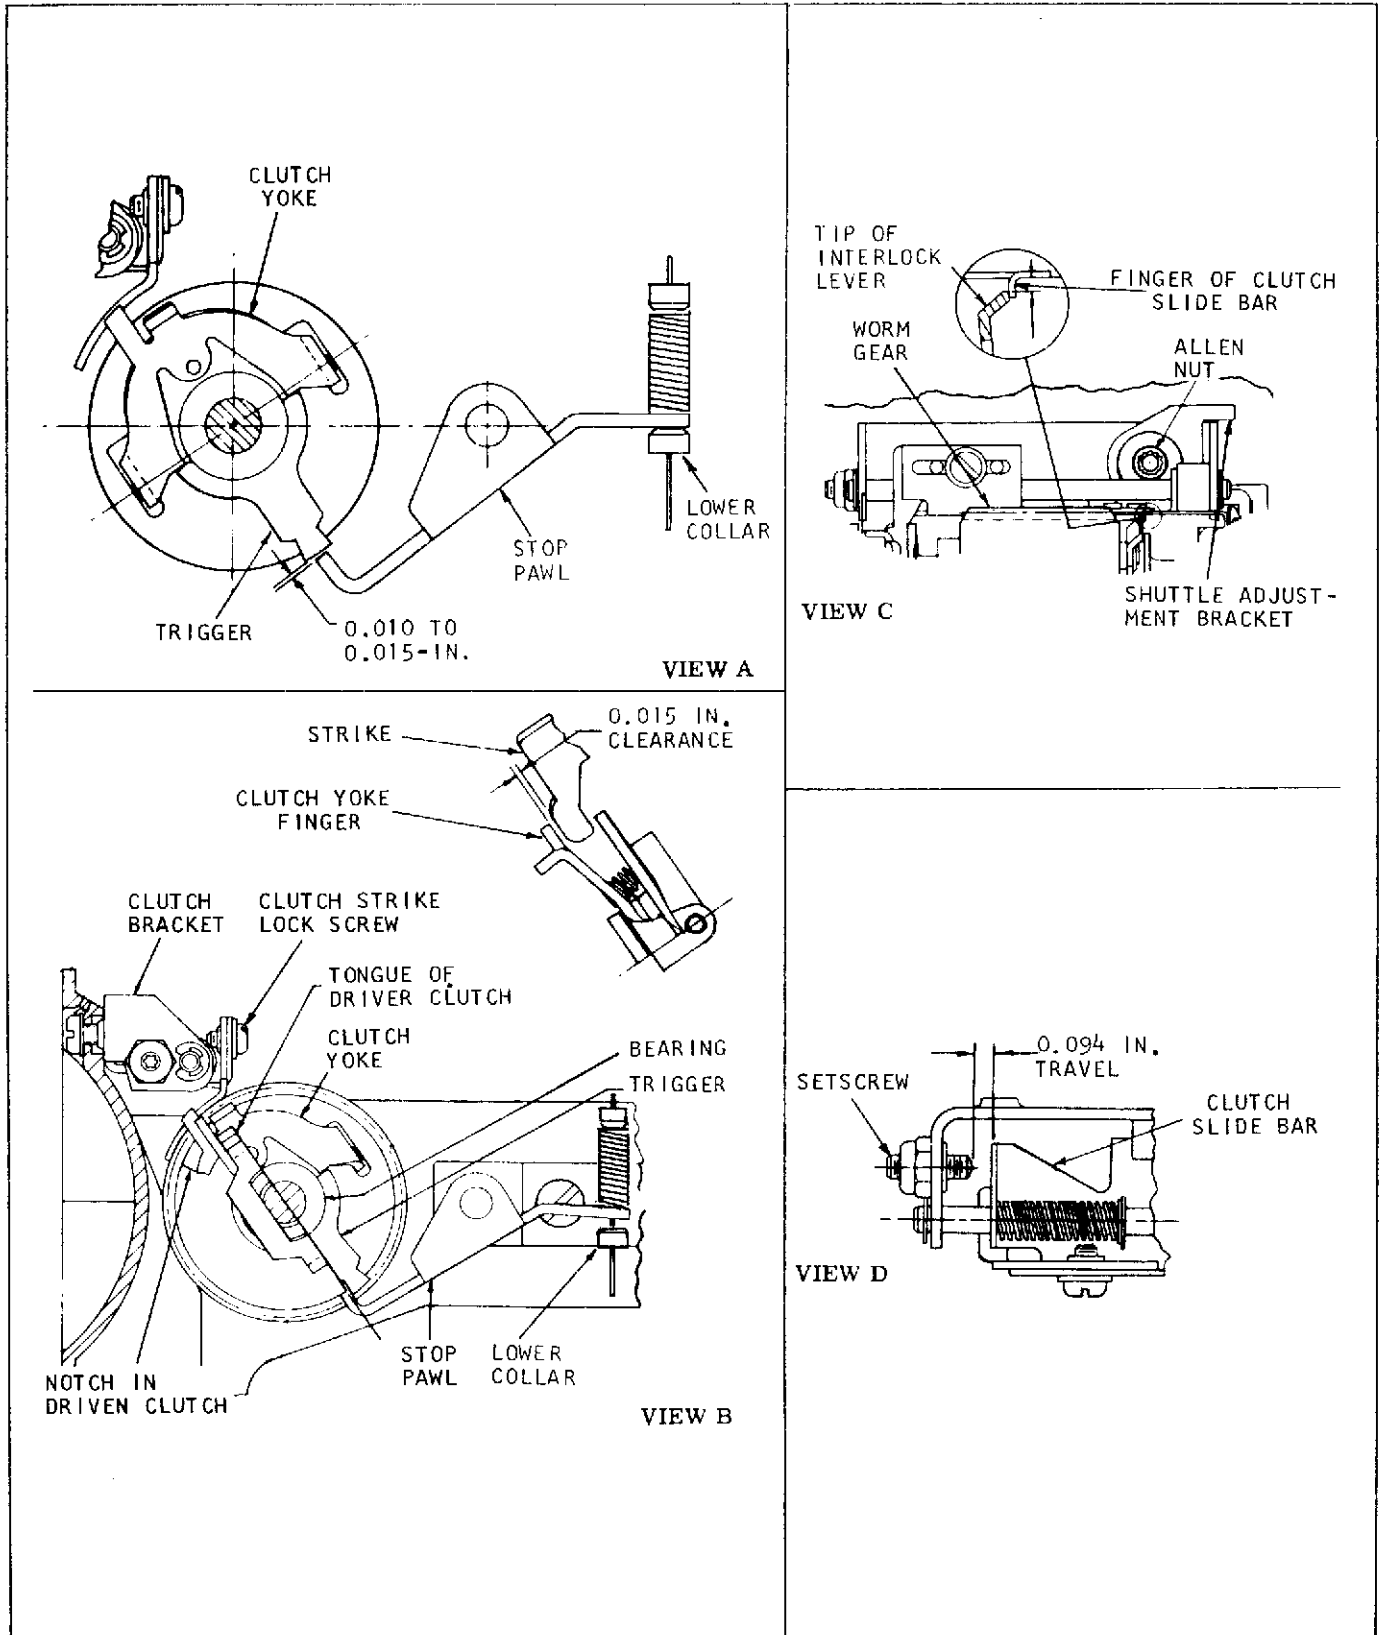

Figure A-1. Still-Run Clutch Adjustments — Design 1541 Only
- (1) The upper end of the still-run rod (4) extends through a hole in the lip of the stop pawl, with one collar (2) below the pawl and the spring (3) and second collar above (see View A of Figure A-1, this section).
- d. Checking Stop Pawl to Trigger Clearance. With the Still-Run knob in the "RUN" position, rotate the mechanism pulley manually until the finger of the trigger is aligned with the bent inner ear of the stop pawl as shown in View A, Figure A-1. If the trigger fails to clear the stop pawl ear, adjust as follows: Loosen the setscrew in the lower collar of the still-run rod and move the collar upward, thus pivoting the stop pawl counterclockwise. When a clearance of 0.010 to 0.015 inch is obtained between tip of trigger and ear of stop pawl, tighten the collar setscrew securely.
e. Checking Shuttle Retraction. With the Still-Run knob in the "STILL" position, rotate the mechanism pulley manually. The ear of the clutch pawl should latch behind the trigger as shown in View B, Figure A-1. Note also the clearance required between the finger on the clutch yoke and the curved arm of the strike. Adjust shuttle retraction as follows (Still-Run knob in "STILL" position).
- (1) Loosen the clutch strike screw (View B, Figure A-1) to permit the strike to be shifted. Insert a 0.015-inch feeler gage between the clutch yoke finger and the strike arm, and press and hold the strike against the feeler gage while retightening the strike screw. Remove the feeler gage.
- (2) Refer to View C, Figure A-1. Loosen the round Allen nut slightly and shift the shuttle adjustment bracket slowly toward the shuttle (to the right) until the shuttle teeth are retracted below the level of the aperture plate rails. Hold the adjustment bracket securely while retightening the Allen nut.
- (3) Refer to View D, Figure A-1. Adjust the setscrew in or out to obtain a clearance of 0.094 inch between the left-hand ear of the clutch slide bar and the tip of the setscrew.
- (4) The shuttle interlock retainer is secured to the right end of the worm gear. Note, in View C, that the curved lip of this retainer must overlap the downward bent finger of the clutch slide bar. If necessary, bend this finger to obtain positive overlap as shown.